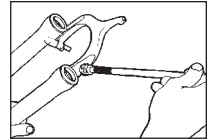

Fig. 8
11. Apply New and Improved Judy Butter to the surface of the four bushings, the inside of the lower tubes and fill the pocket between the lips of the Resi-wiper seal completely. Use a socket extension wrapped with cloth tape dipped in Judy Butter to reach inside the lower tubes (see Fig. 8).